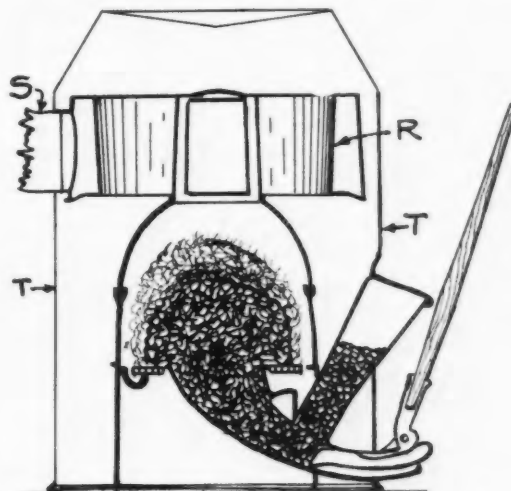

Fig. 4. Warm Air Furnace Arranged to Feed From Below.
"This type of heater is constructed for furnace use as indicated in Fig. 4, the coal being placed in the hopper in the same manner as previously described and the fire pot having a cast-iron radiator (R) set on the top, through which the hot gases pass on the way to the smoke pipe connection (S). The whole apparatus is encased in the furnace casing (T), which keeps the air in contact with the fire pot and radiator, so as to heat it rapidly. The hot-air pipes are taken from the top of this furnace in exactly the same manner as the ordinary furnace, and its operation is exactly the same, the only exception being the increased efficiency due to the fire always being bright and its ability to consume satisfactorily the cheaper grades of fine coal that it is not possible to burn on the ordinary grates.